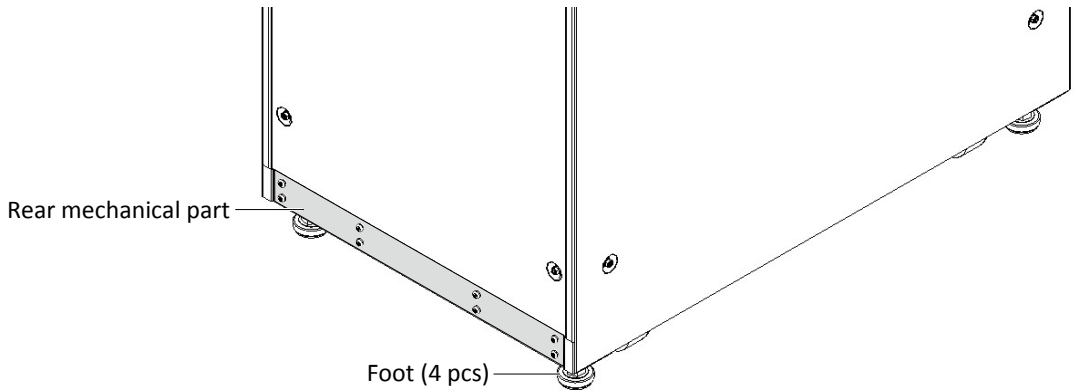

Figure 8-11 Removing adjustable feet
1. Lift up the UPS cabinet, and upraise the four feet, then remove the rear mechanical part, see Figure 8-11.